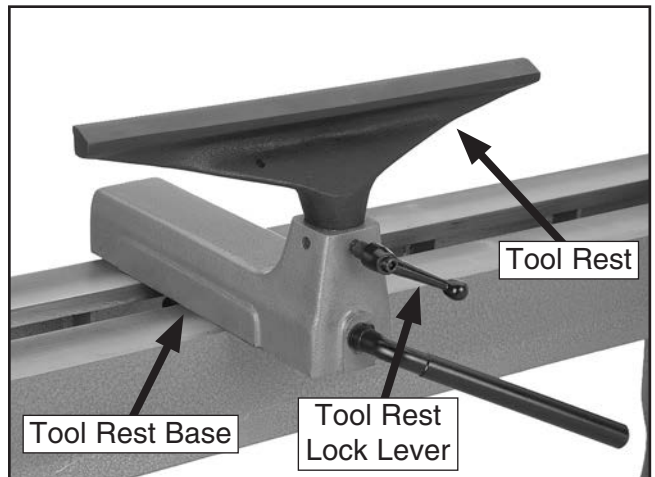

Figure 15. Tool rest installed on the tool rest base.
- Insert the tool rest into the tool rest base and tighten the tool rest lock lever (see **Figure 15**).